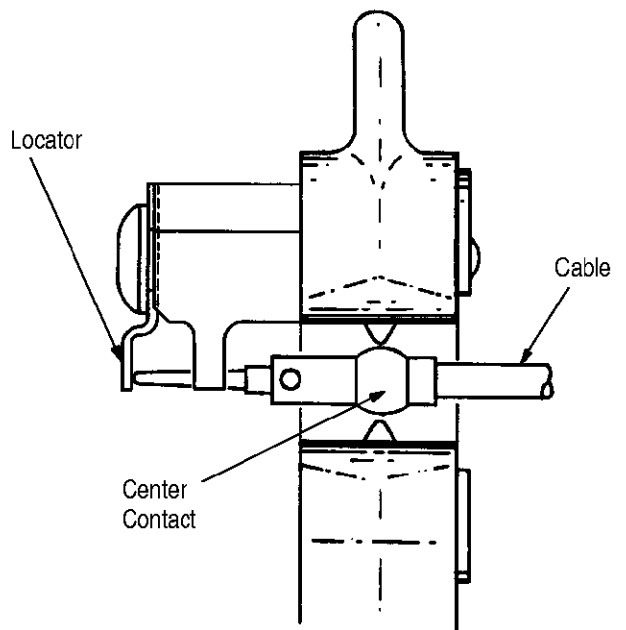

Figure 3
4. Make sure that the ferrule is slipped onto the cable. With plug-cable assembly prepared as described in AMP Drawing 222403, place center contact in crimping dies, as shown in Figure 3. Make sure that the center contact is bottomed in crimping die.